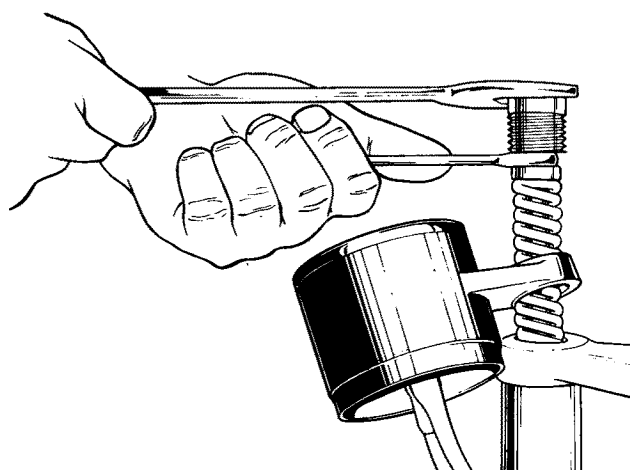

Fig. G7 Releasing damper rod from fork top bolts.
- 2 Unscrew and lift the fork tube large chrome top bolts and using two spanners as shown in *Fig. G7* release the damper rod from each top bolt.
- 10 Again lift the large chrome top bolts, firstly to add oil and secondly to connect the damper rods. Measure the required quantity of oil for each fork leg (150 cc of SAE 20). Pouring the oil into the leg will prove a long operation. To speed up the filling operation, pour in as much of the measured quantity as possible, place the hand firmly over the top of the main tube and extend the fork leg. Do this several times to speed up oil drainage into the slider. When the measured quantity has been added, and with the instrument case held in position, connect the damper rod to the chrome bolt as in Fig. G7. Using a socket wrench on the chrome bolts, tighten to 40 lbs/ft (5.83 kg/m).